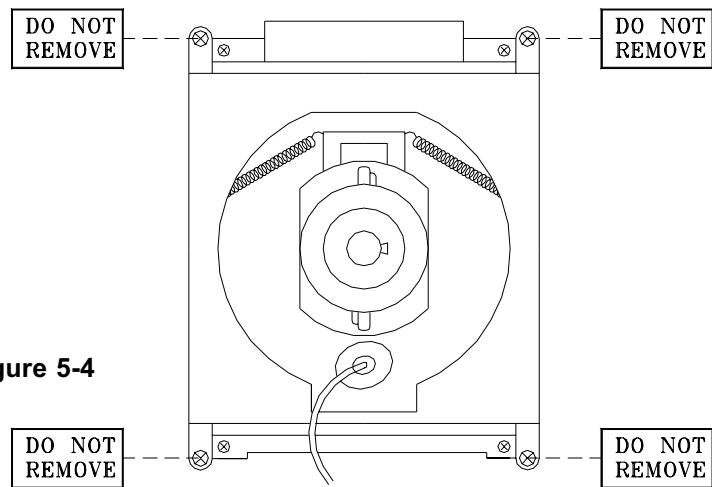

Figure 5-4
**Note:** The CRT fixing screws should not be loosened nor should they be removed. [Figure 5-4]